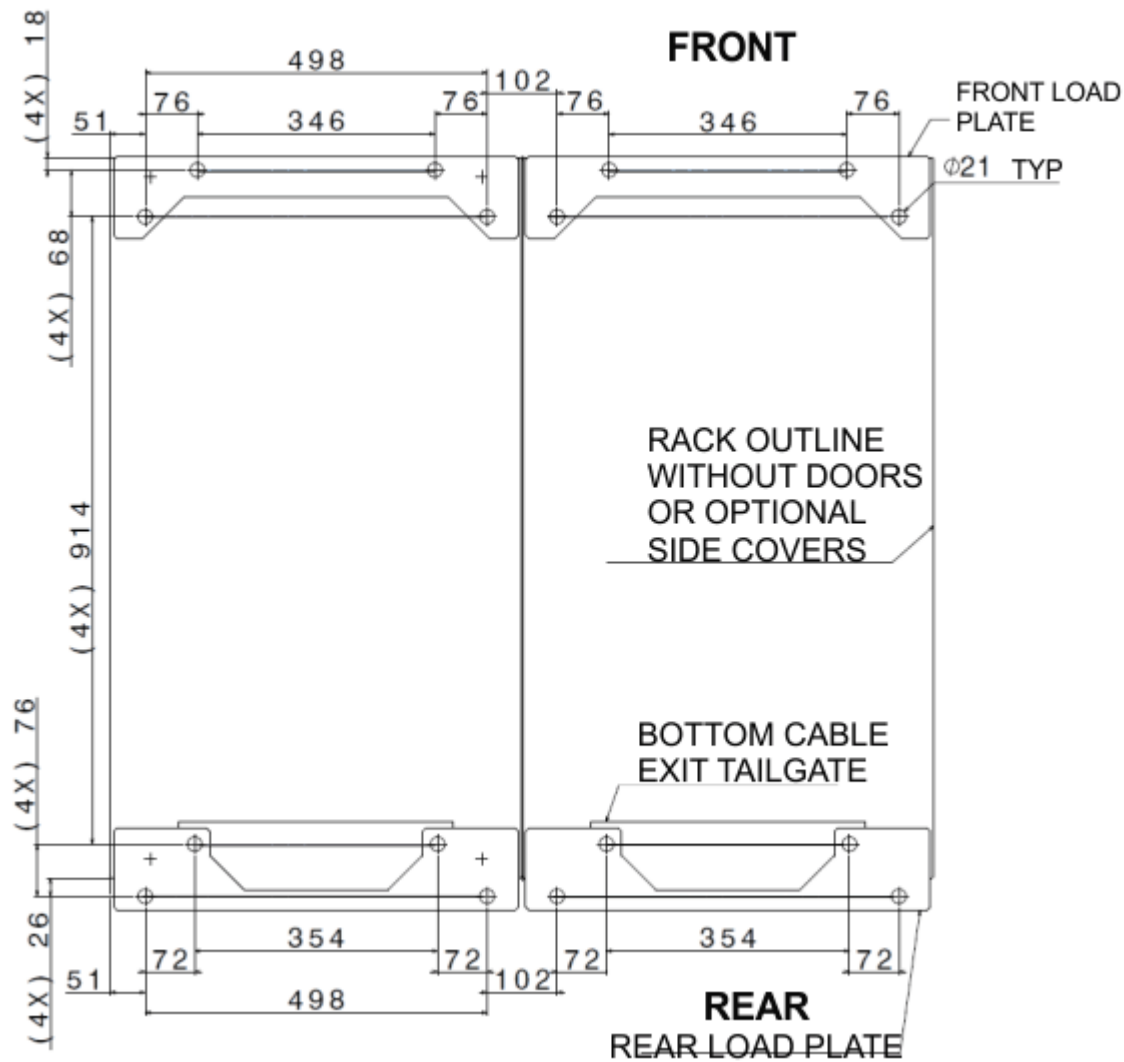

Figure 19. Location for fastener installation (nonraised floor)
- Use Figure 19 on page 106 to determine the placement of the loadplate fasteners (four per loadplate). The pattern repeats for each frame. Dimensions are in millimeters (mm).